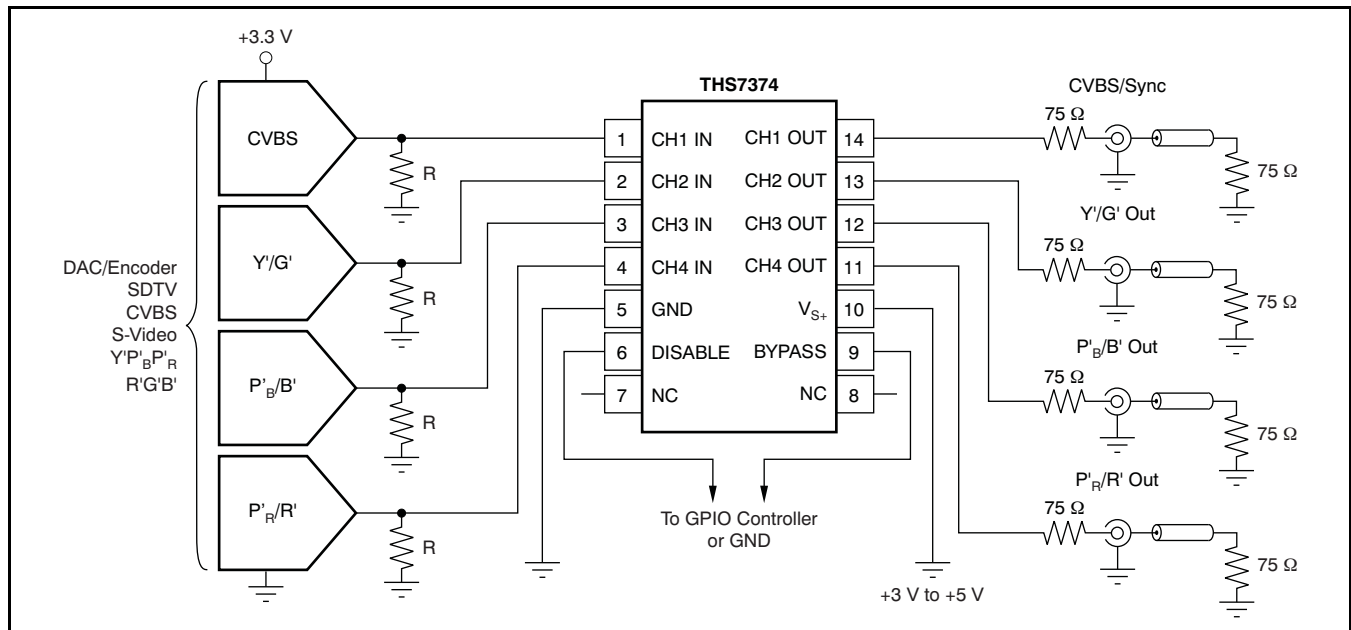

Figure 57. Typical SDTV CVBS/Y'P'B'P'R Inputs from DC-Coupled Encoder/DAC with DC-Coupled Line Driving
A typical application circuit that uses the THS7374 as a video buffer is shown in Figure 57. It shows a DAC or encoder driving the input channels of the THS7374. One channel is a composite video (CVBS) channel of a standard definition (SD) video system. The other channels are the component video Y'P'B'P'R (sometimes labeled Y'U'V' or incorrectly labeled Y'C'B'C'R) signals of a 480i or 576i system. These channels could easily be the s-video Y'/C' channels or the R'G'B' channels of a SCART system.